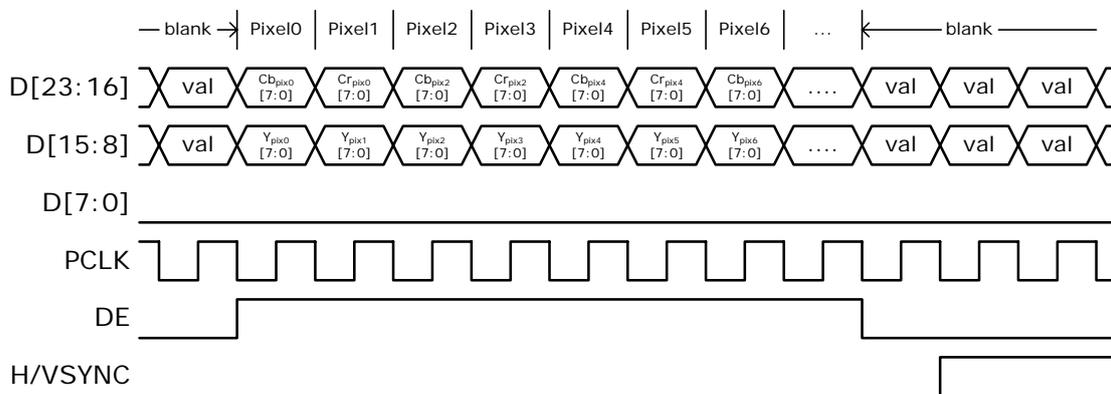

Figure 6. 16-bit YCbCr 4:2:2 with separate syncs
YCbCr 4:2:2 format does not have one complete pixel for every clock period. Luminance channel (Y) is given for every pixel, while the two chroma channels are given alternatively on every other clock period. The average bit amount of Y is twice that of Cb or Cr. Depending on the bus width, each component could take on different lengths. The DE period should contain an even number of clock periods. Figure 6 gives a timing example of 16-bit YCbCr 4:2:2. The 20-bit and 24-bit versions are similar.